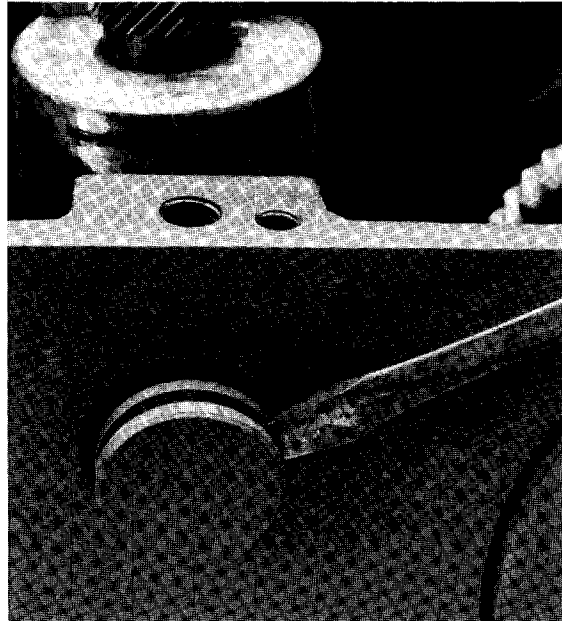

Fig. 51
- 4a. Models 7120 and 7440 Only: Remove the allen setscrews located in the gearbox sides directly above the housing bearing pins. Use a screwdriver to pry out the pins. (Figure 51).